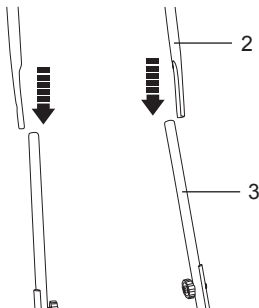
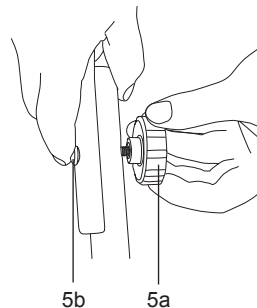

Fig. 8
Fig. 9
- Align the upper handle bar (2) with the middle handle bar (3), make sure the two holes are on the right side (Fig. 8). Secure them with handle assembly set (5) with locking knob located inside on each side (Fig. 9).